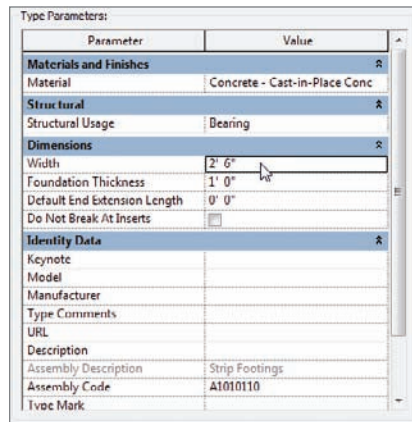

FIGURE 8.57 Changing the width to 2'-6"
5. Change the Width setting to 2'-6", as shown in Figure 8.57.